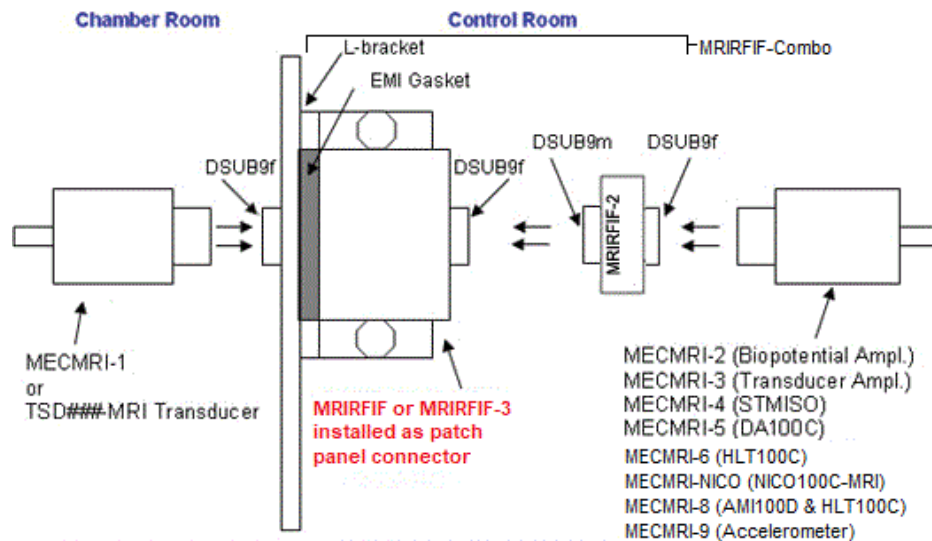

Figure 2: Cabling sequence for patch panels with no existing connectors
- See Figures 2, 4, 5 (Installation method A) for details.